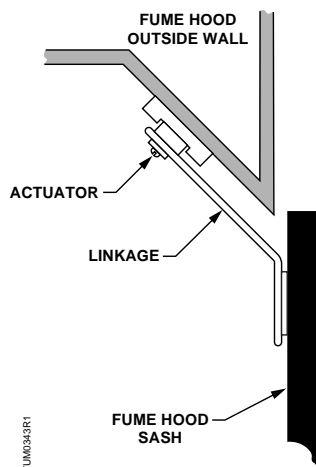

Figure 12. Linkage on 45° Angle.
5. **For sensors mounted at a 45-degree angle,** using the linkage-forming tool, bend the linkage at a 45-degree angle on the mark so the linkage is parallel to the sash (Figure 12).